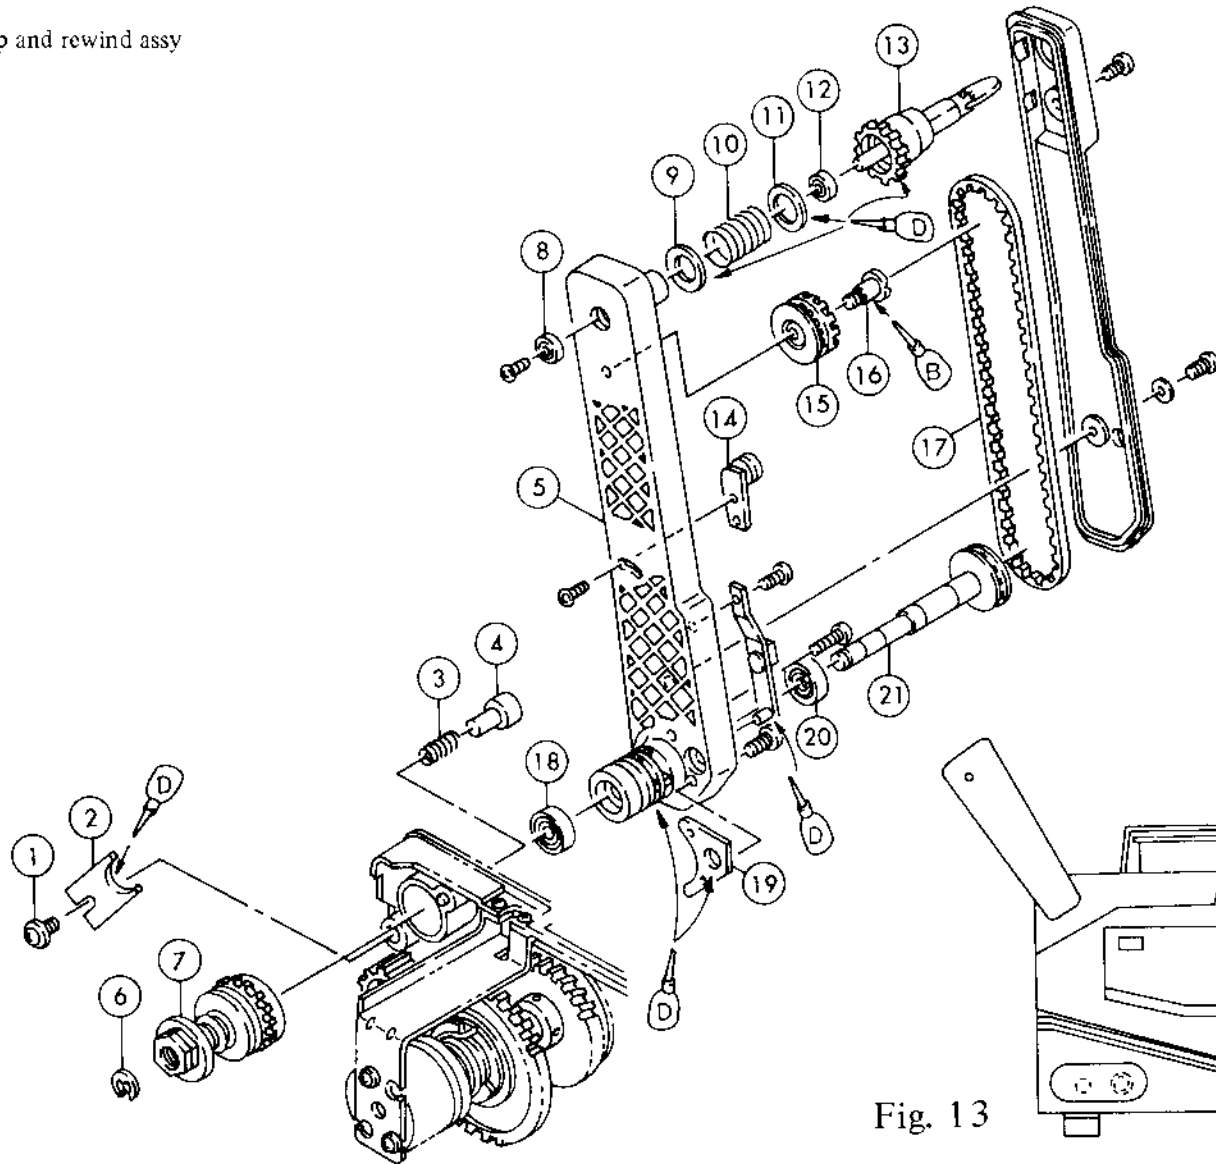

Fig. 12
1. Pull out ⑦ by removing ⑥.
2. Remove ① to remove ②.
3. Pull out ⑤, with the knob main set to DOUSER. (Be careful since ③ and ④ may fly out.)
4. For further disassembly, refer to Fig. 12.